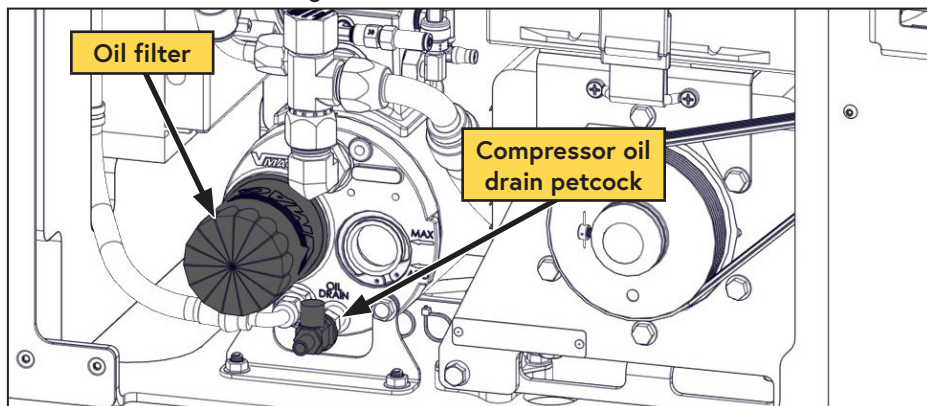

Figure 26 — Compressor oil filter
- Open the oil drain petcock and drain the oil into a container with a capacity of at least 1.6 USG (6 L) (Figure 26).
- Remove the oil filter (Figure 26).